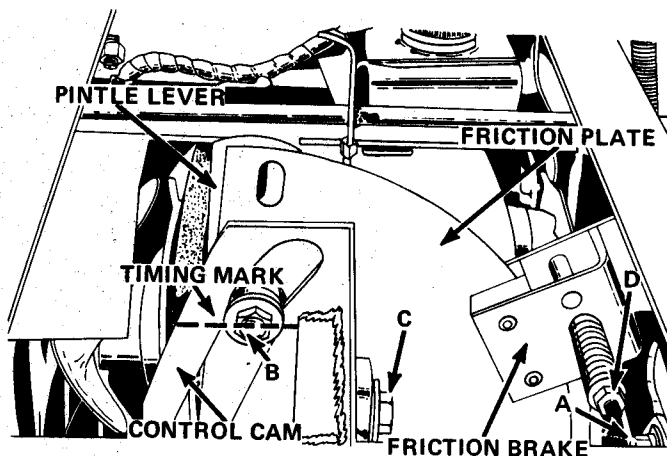

Figure 33
To adjust the neutralizer pedal, place control lever in the "park-start" position, loosen bolt A, Figure 33, depress the foot pedal and apply the brake lock, then retighten bolt A.
2. Check position of the timing mark on control cam. With the shift lever in the "park-start" position and brake lock engaged, the center line of bolt head B, Figure 33, should be aligned with the timing mark
5. Loosen bolt B slightly. Insert a screwdriver through the slots in the friction plate and the pintle lever, Figure 33. Pivot the pintle lever left or right until the rear tires stop rotating and retighten bolt B.
To adjust the friction brake, tighten or loosen bolt D, Figure 33, until the proper braking is reached.